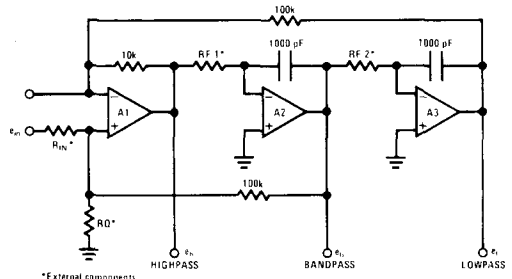

FIGURE 2. Non-inverting Input ( $Q > Q_{MIN}$ ). See Q Tuning Section)
The specific transfer functions for some of the most useful circuit configurations using the AF100 are illustrated in Figures 2 through 8. Also included are the gain equations for each transfer function in the frequency band of interest, the Q equation, center frequency equation and the Q determining resistor equation.
a) Non-inverting input (Figure 2) transfer equations are: